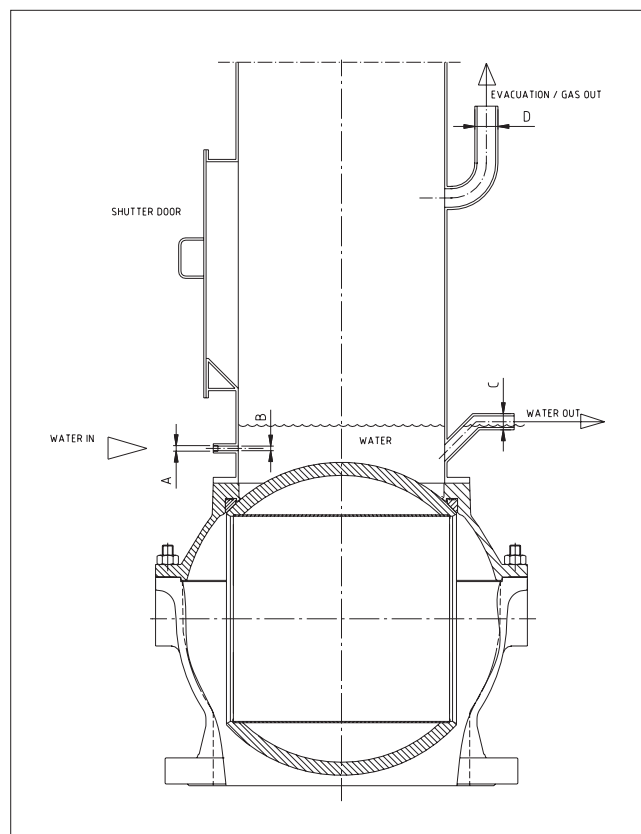

Fig. 2.
A) Customer builds arrangement according to figure 2.